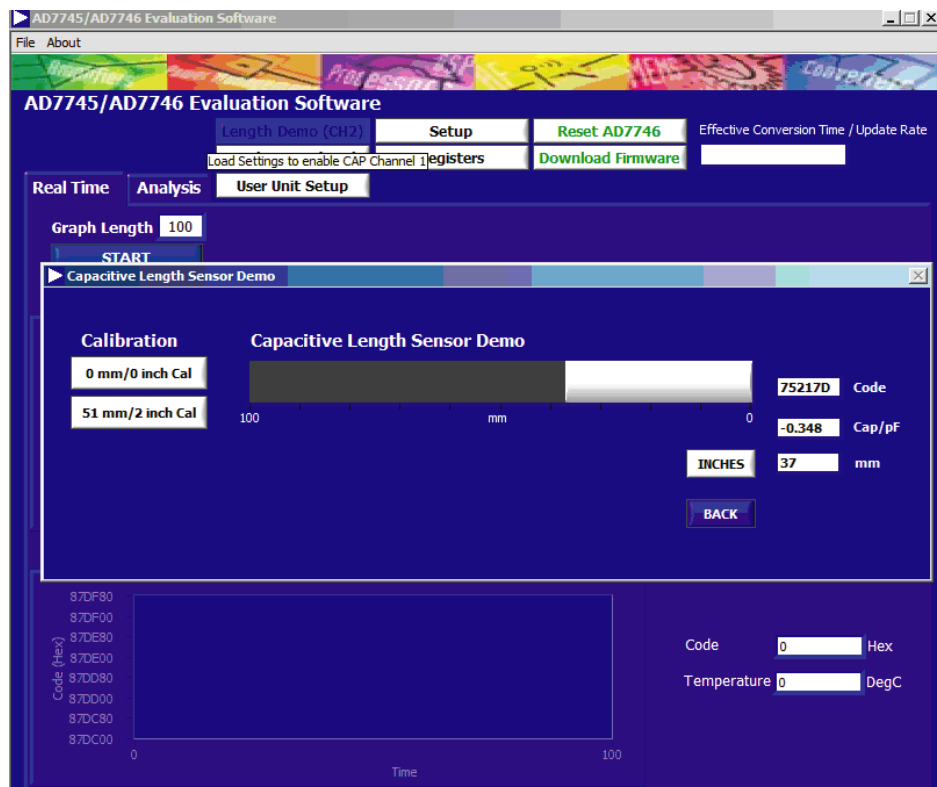

Figure 10. Capacitive Length Sensor Demo Window
2. Click the **Length Demo (CH2)** button. This action enables continuous conversions on Capacitive Channel 2 in single-ended mode, enables EXCA as the excitation output pin, sets the update rate, and initializes CAPDAC A. The **Capacitive Length Sensor Demo** window appears (see Figure 10).
- Slide the ruler on the evaluation board. This action is mirrored on the screen. The code, capacitance, and length (in inches or mm) appear on the right side of the window (see Figure 10). These values change as you slide the ruler on the evaluation board.